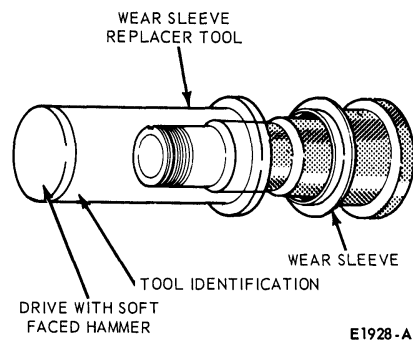

FIG. 3 Tool Application of Wear Sleeve (Wiper) Installation
3. Remove the retaining lock ring (Fig. 3).
The wear sleeves (500 through 9000 Series) must be installed squarely on the axle housing using the appropriate tools (Fig. 3). Do not use heat on the wear sleeves to facilitate installation. Use the proper tool as shown in Fig. 3. The sleeves are designed with flanges to eliminate the possibility of installing them backwards.
Position a new proper size wear sleeve squarely to the axle housing spindle and, with the use of proper driving tool (Fig. 3), and a soft faced hammer, drive the wear sleeve on the axle housing spindle until it seats evenly against the shoulder of the seal journal of the spindle.